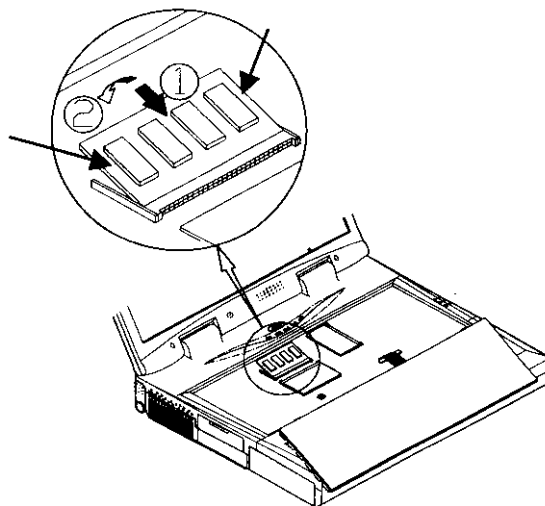

Figure 2-10
5. **Press two edges of the memory module (as the arrows indicated) to make it locked into place** (Figure 2-10).